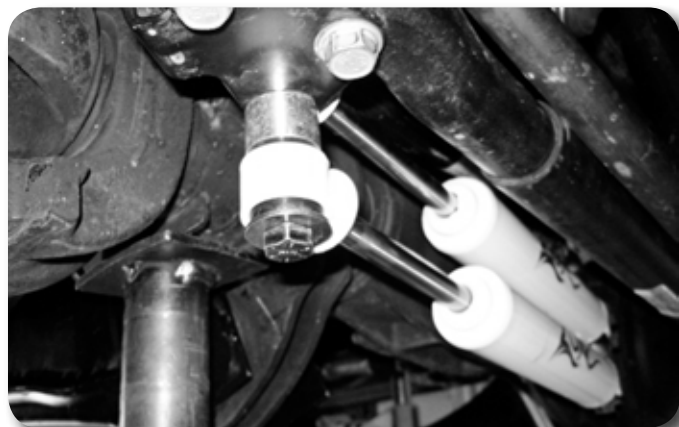

Figure 2
6. Attach the stabilizer to the bottom side of the factory mounts with new 12mm hardware with thick washers against the bushings. Tighten bolt to 50 ft-lbs. (Fig 2)